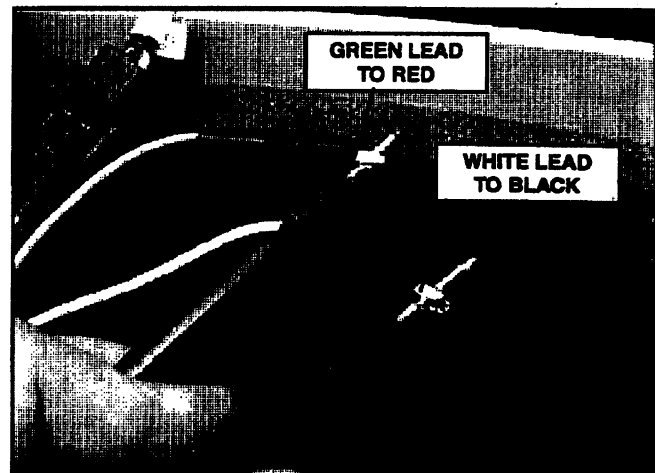

FIGURE 9.2A
3. Connect leads from meter to the Test Harness Leads and take reading from meter. See Figure 9.2A.
4. Remove cap from the Red & Black wire harness, attach test harness, connect leads from meter to Test Harness and record reading. See Figure 9.2A.